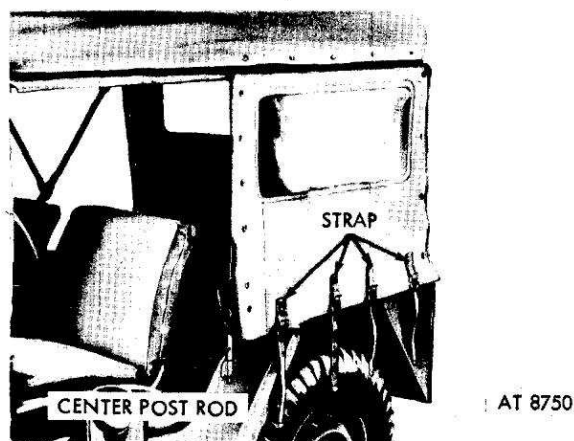

Figure 4-15. Fastening left side curtain.
k. Wrap the curtain flap at forward edge around door center rod and secure with button fasteners (fig. 4-15). Secure straps at bottom edge of curtain.